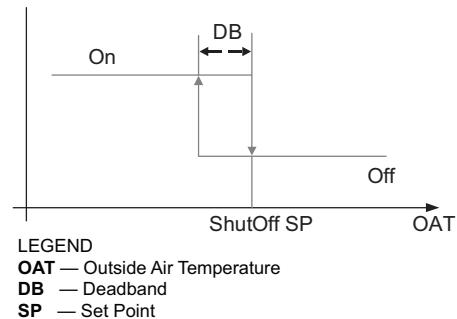

Fig. 76 — Hysteresis Settings
Hysteresis setting (DB) defaults to 2°F (-16.6°C). See Fig. 76.